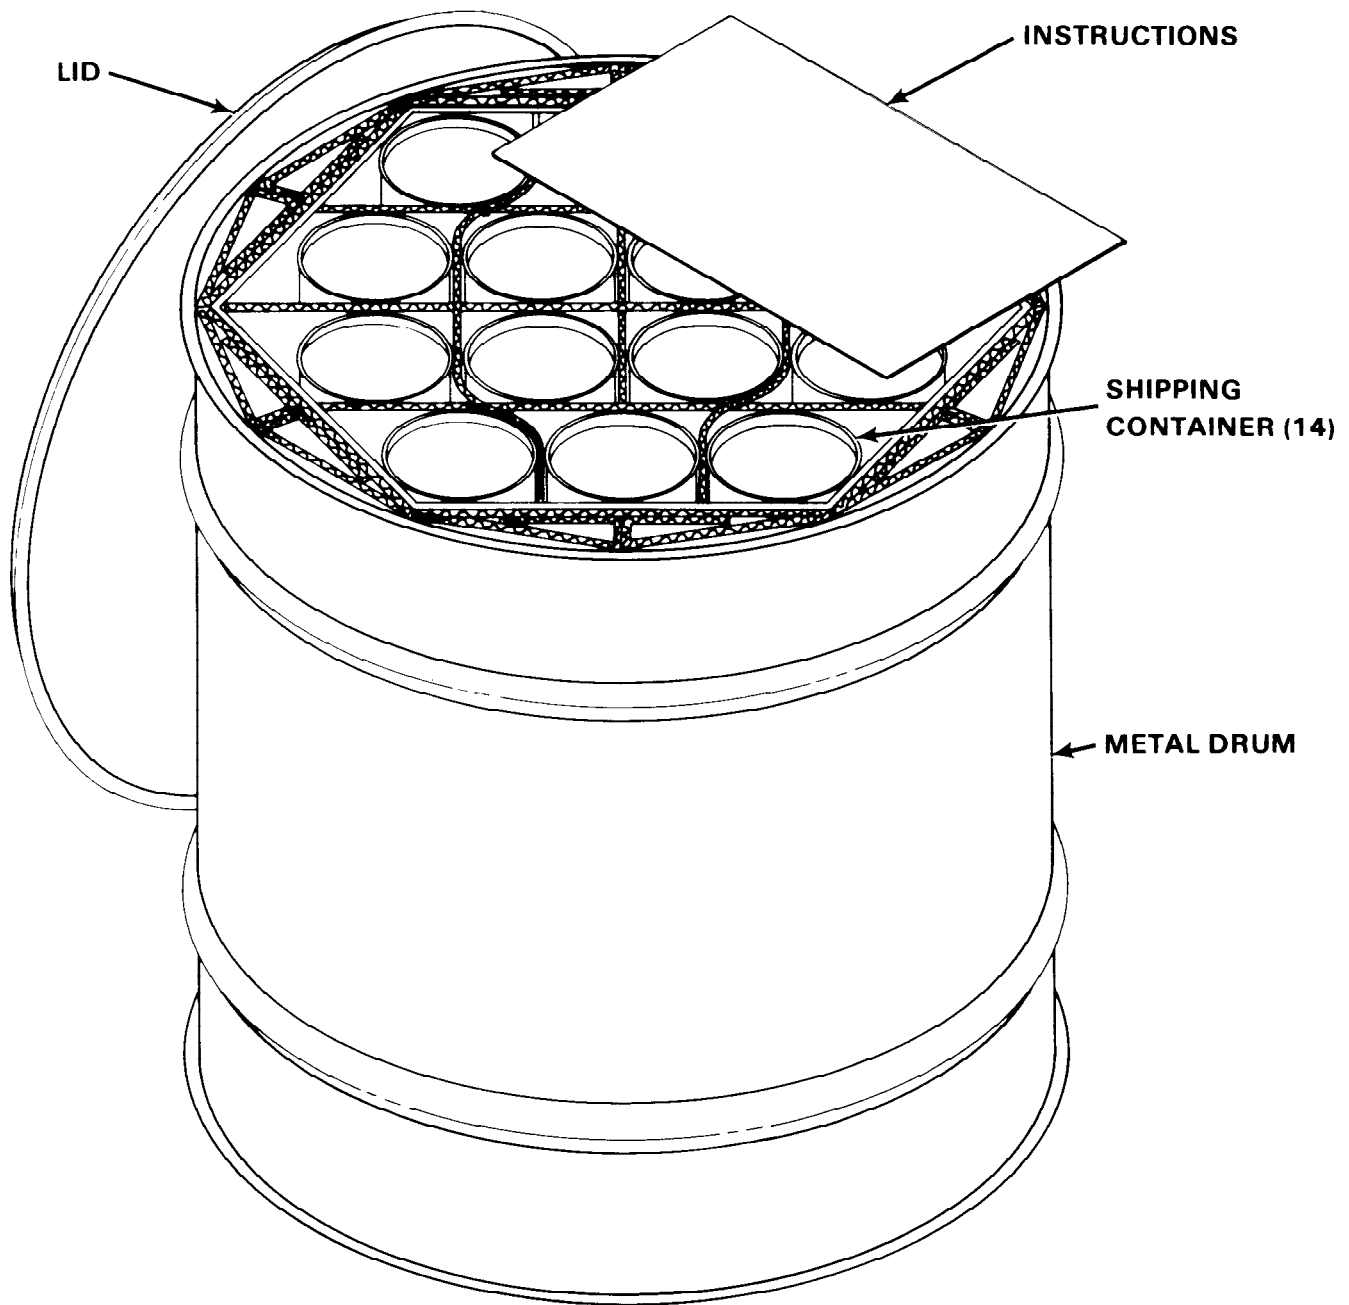

Figure 15-2.8. M2 Training Toxic Gas Set
15-2.8.2. Description. The M2 gas set, Figure 15-2.8, consists of a 20-gauge steel drum approximately 14.0 inches high and 14.0 inches in diameter. The drum is painted gray with two green bands. Two hexagonal fiberboard containers are packed inside the steel drum, each containing 14 tearstrip containers. Each tearstrip container contains one ampule approximately 4.62 inches long and 1.87 inches in diameter. The ampules (28) each contain 100% Distilled Mustard (HD), 3.81 ounces per ampule.